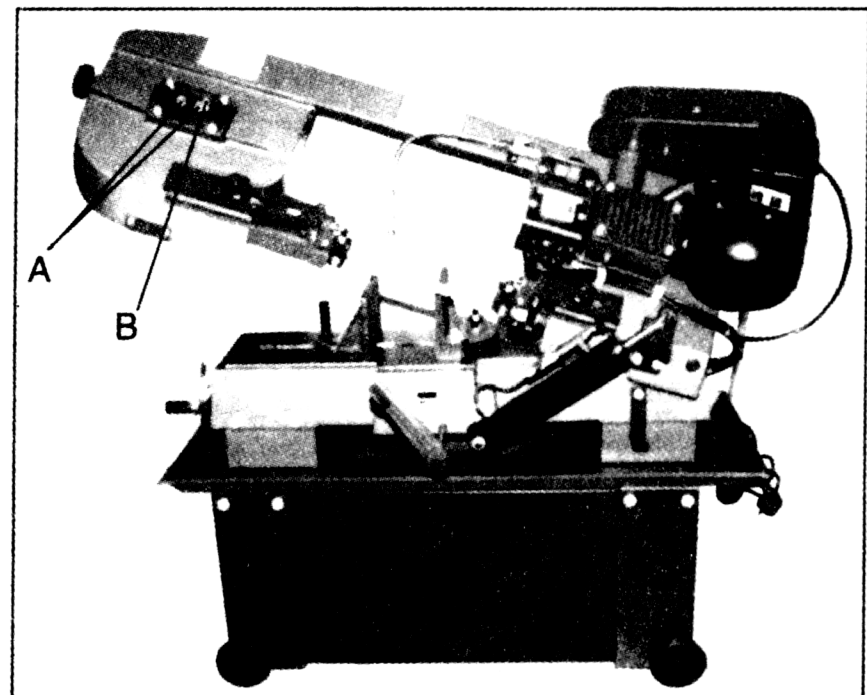

Fig.13
5. Loosen bolts (A, Fig.13).
6. Turn set screw (B) while observing blade tracking on wheel. Turn set screw clockwise to track blade closer to the wheel flange. Turn set screw counter-clockwise to track blade away from the wheel flange.
7. Once tracking is set, tighten bolts (A).